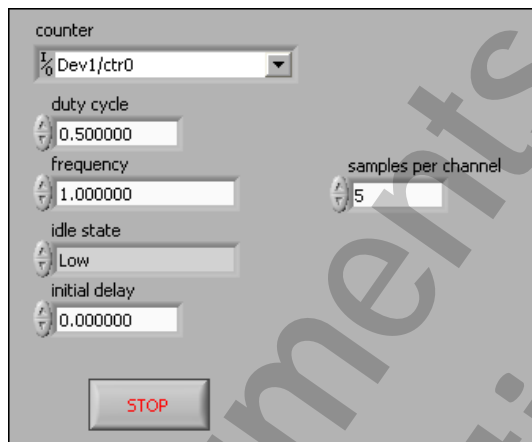

Figure 6-12. Retriggerable Pulse Train VI Front Panel
4. Arrange the front panel controls as shown in Figure 6-12.